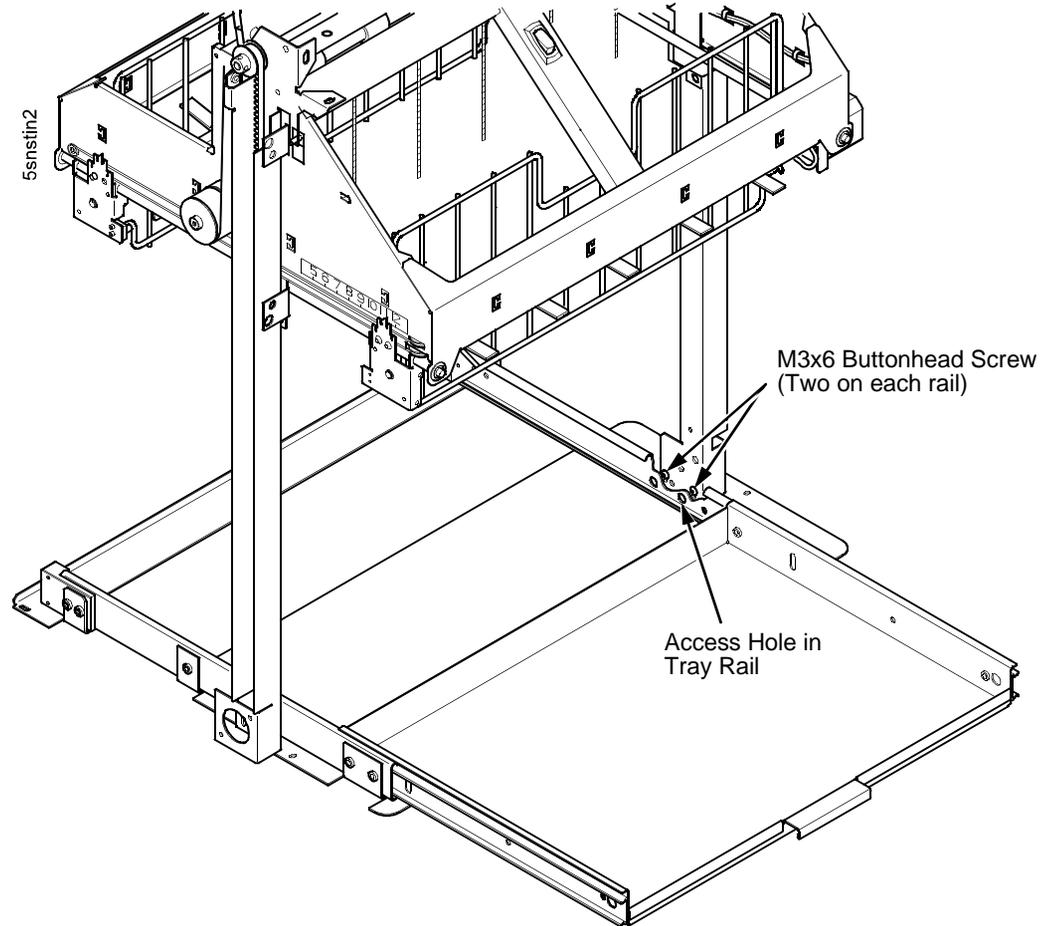

Figure 89. Loosen the Lower Screws in the Vertical Rails
15. Pull the paper tray out until the holes in the rails permit access to the M3 buttonhead screws. (Figure 89.)
16. Loosen one turn—do not remove—the M3x6 screws securing the vertical rails to the stacker base. Each rail is secured by two screws. (Figure 89.)
35. Pull the paper tray out until the holes in the rails permit access to the M3x6 screws. Tighten the M3 screws securing the vertical rails to the stacker base. Each rail is secured by two screws. (Figure 89.)